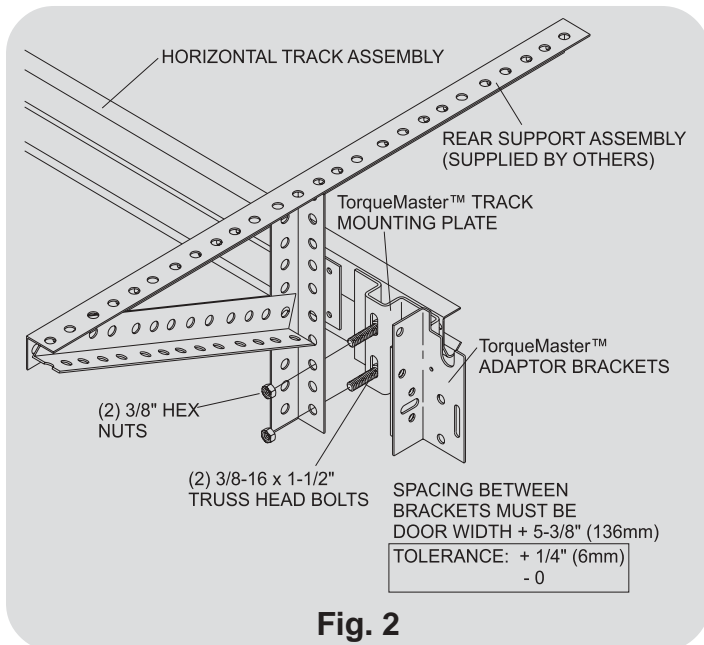

Fig. 2
Level and square the horizontal track (spacing between the left hand and the right hand TorqueMaster™ Adapter Brackets must be door width plus 5-3/8" (136 mm) with a tolerance of plus 1/4" (6mm) and minus 0). Lay a level on the horizontal portion of the track and move the rear of the track to a level position, then place (2) 3/8-16 x 1-1/2" truss head bolts through the TorqueMaster™ track mounting plate (threads sticking out) and slide the drop angles over the bolts and secure with (2) 3/8" nuts each. (See **Fig. 2**)